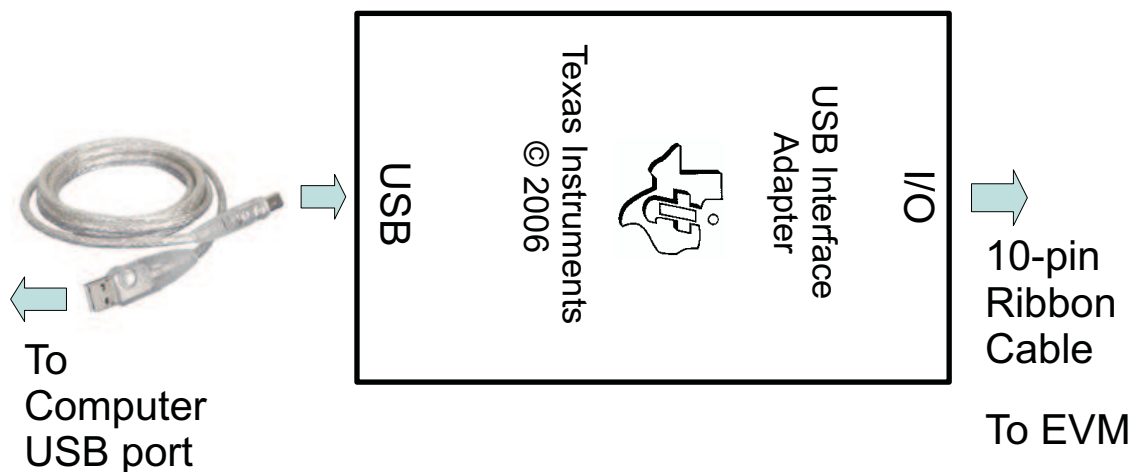

Figure 1. Connections of the HPA172 Kit
- (A) Set the power supply #1 for 5V ± 100mV DC, 2.0 ± 0.1A current limit and then turn off supply.
- (B) Connect the output of power supply #1 in series with a current meter (multimeter) to J1 (DC+, DC-).
- (C) Connect a voltage meter across J1 (DC+, DC-).
- (D) Connect the Load #2 in series with a current meter (multimeter) to J2 (BAT+, BAT-). Make sure a voltage meter is connected across J2 (BAT+, BAT-). Turn on the Load #2. Use the constant voltage mode. Set the output voltage to 2.5V.
- (E) Turn off Load #2.
- (F) Connect J5 to HPA172 kit by 10-pin ribbon cable. Connect the USB port of the HPA172 kit to the USB port of the computer. The connections are shown in Figure 1.